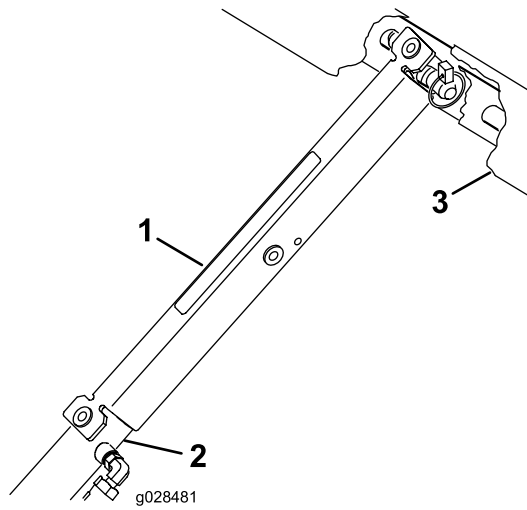

Figure 7
3. Push the bed support onto the cylinder rod and ensure that the support end tabs rest on the end of the cylinder barrel and on the cylinder rod end (Figure 7).